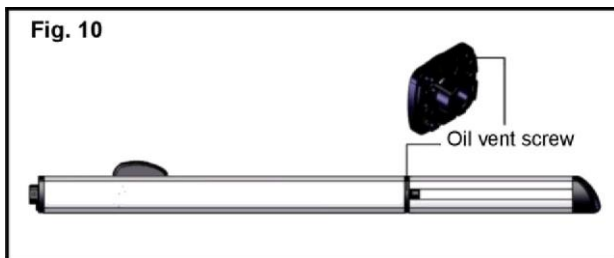

Fig. 10
D) unlock the hydraulic actuator (Fig. 10);
F) Re-lock the actuator (Fig. 10);
- remove the vent screw (Fig. 10).